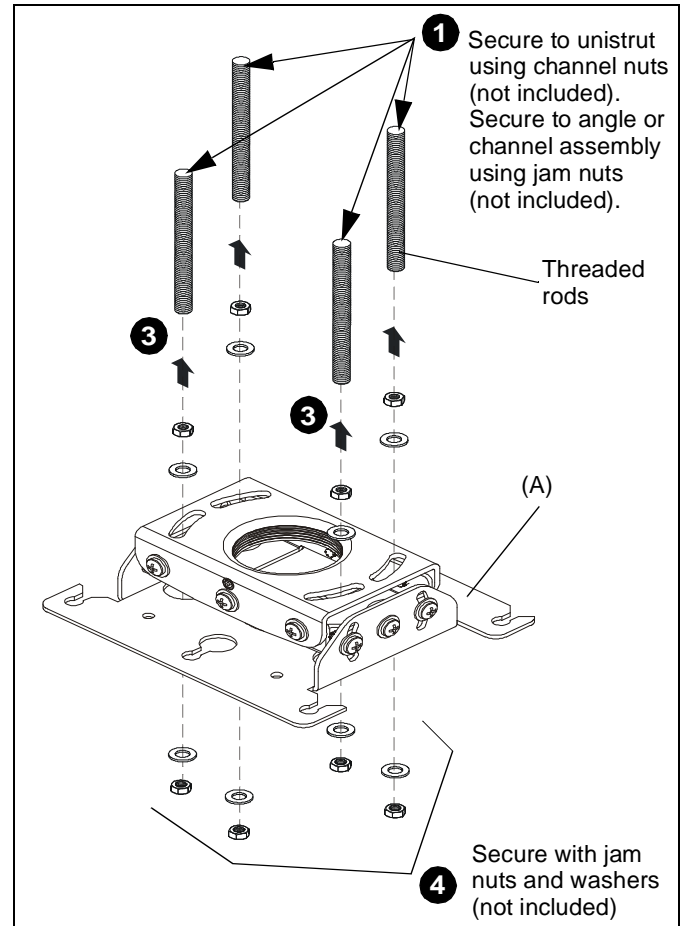

Figure 4
- Secure the threaded rods to the RPA with one 1/4-20 jam nut (not included) and one 1/4" washer (not included) on each threaded rod. (See Figure 4)